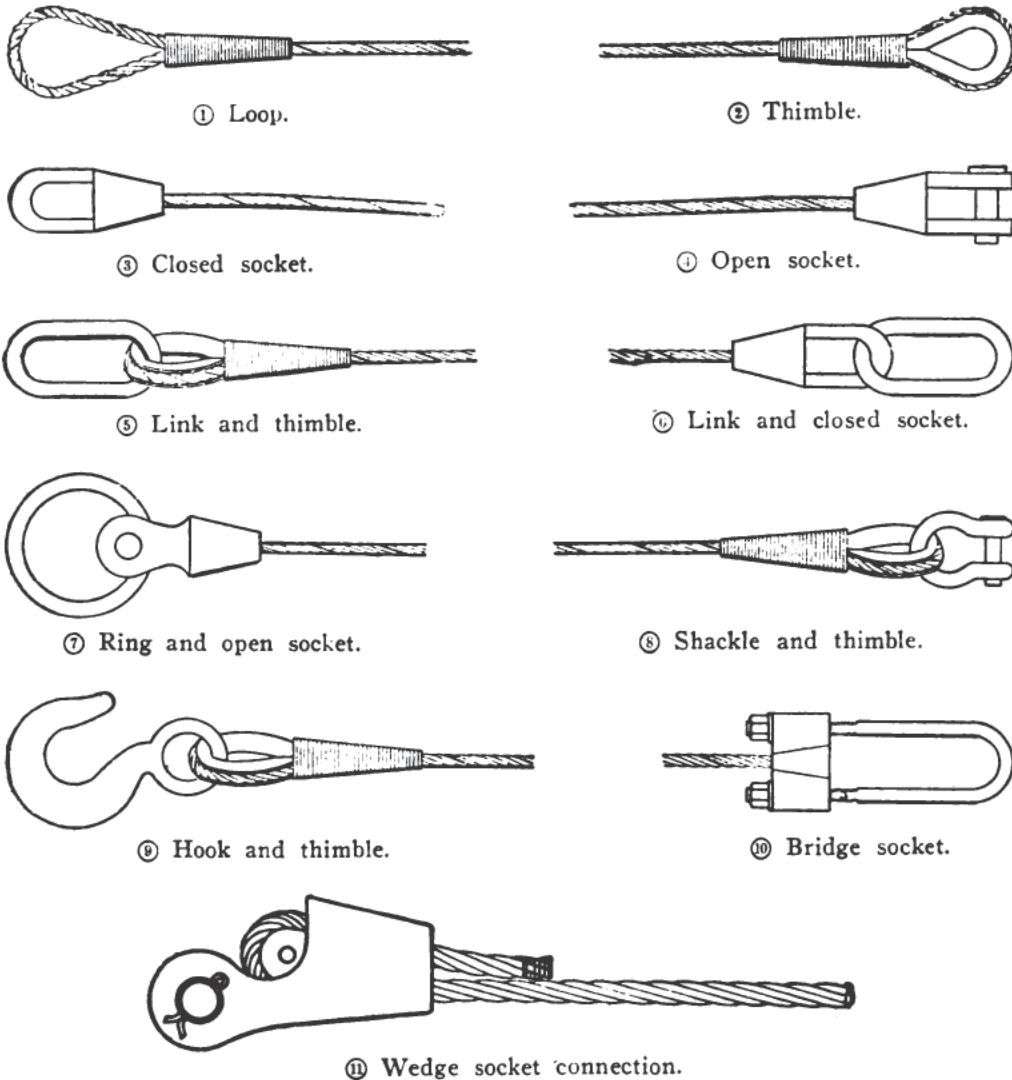

Figure 17-18.—Wire rope fittings.
Fittings are attached to the ends of wire rope, so it can be easily connected to other wire ropes, chains, pad eyes, or heavy equipment. In figure 17-18 you can see the standard types. The kinds of fittings you use depend on the job you need them for, or what you're going to connect them to. For example, if you had to hoist an I-beam from ground level, you could use two wire rope slings made by splicing a thimble into the rope and then attaching a shackle to the thimble. A thimble in an eye splice helps to keep the wire rope from bending, thus making the rope wear longer. See (8) of figure 17-18.